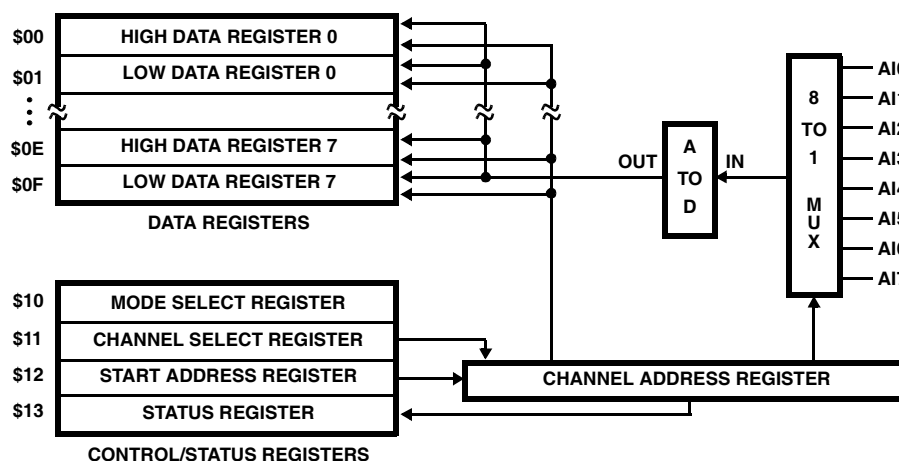

FIGURE 1. A PROGRAMMER'S MODEL OF THE CDP68HC68A2
From the programmer's perspective, the A2 is comprised of three control registers (Mode Select Register - MSR, Channel Select Register - CSR, and Starting Address Register - SAR), a status register (SR), an array of eight pairs of Data Registers, and one non-addressable, internal register (Channel Address Register). See Figure 1.
The format of the address/control byte is shown in Figure 4. The most significant bit is the \overline{R}/W bit. When \overline{R}/W is 0, read operations are to be performed. If \overline{R}/W is 1, write operations are to be performed. A0 through A4 specify the register to access. Data registers are mapped to address \$00 through \$0F. The Control and Status Registers are at locations \$10 through \$13 (See Figure 1).